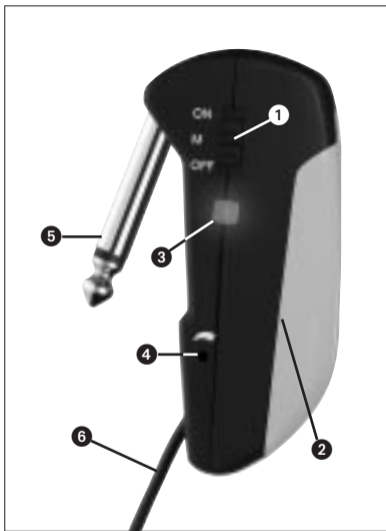

Fig. 1: GB 40 controls
2.5 Controls (refer to fig. 1)